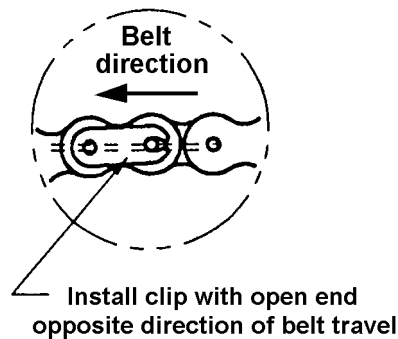

Figure 2
8. Install the belt and chain on the conveyor and connect the chain using the special connecting link provided, and connect the belt lacing using the lacing pin provided. Install the connecting link clip with the open end opposite to the direction of belt travel. (Refer to Figure 2)